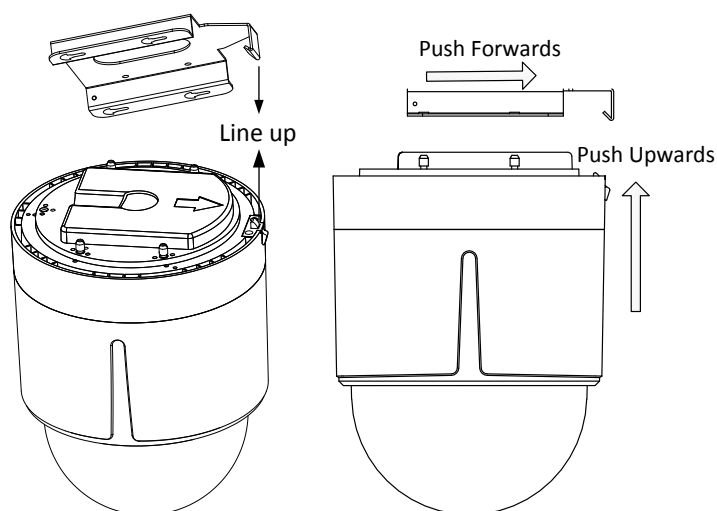

Figure 2-15 Attach the Back Box to the Mounting Base
- 3) Push the speed dome upwards and then forwards in the direction of arrow. When the speed dome is placed in position, the spring will automatically snap into the lock clip firmly. Refer to the Figure 2-15.